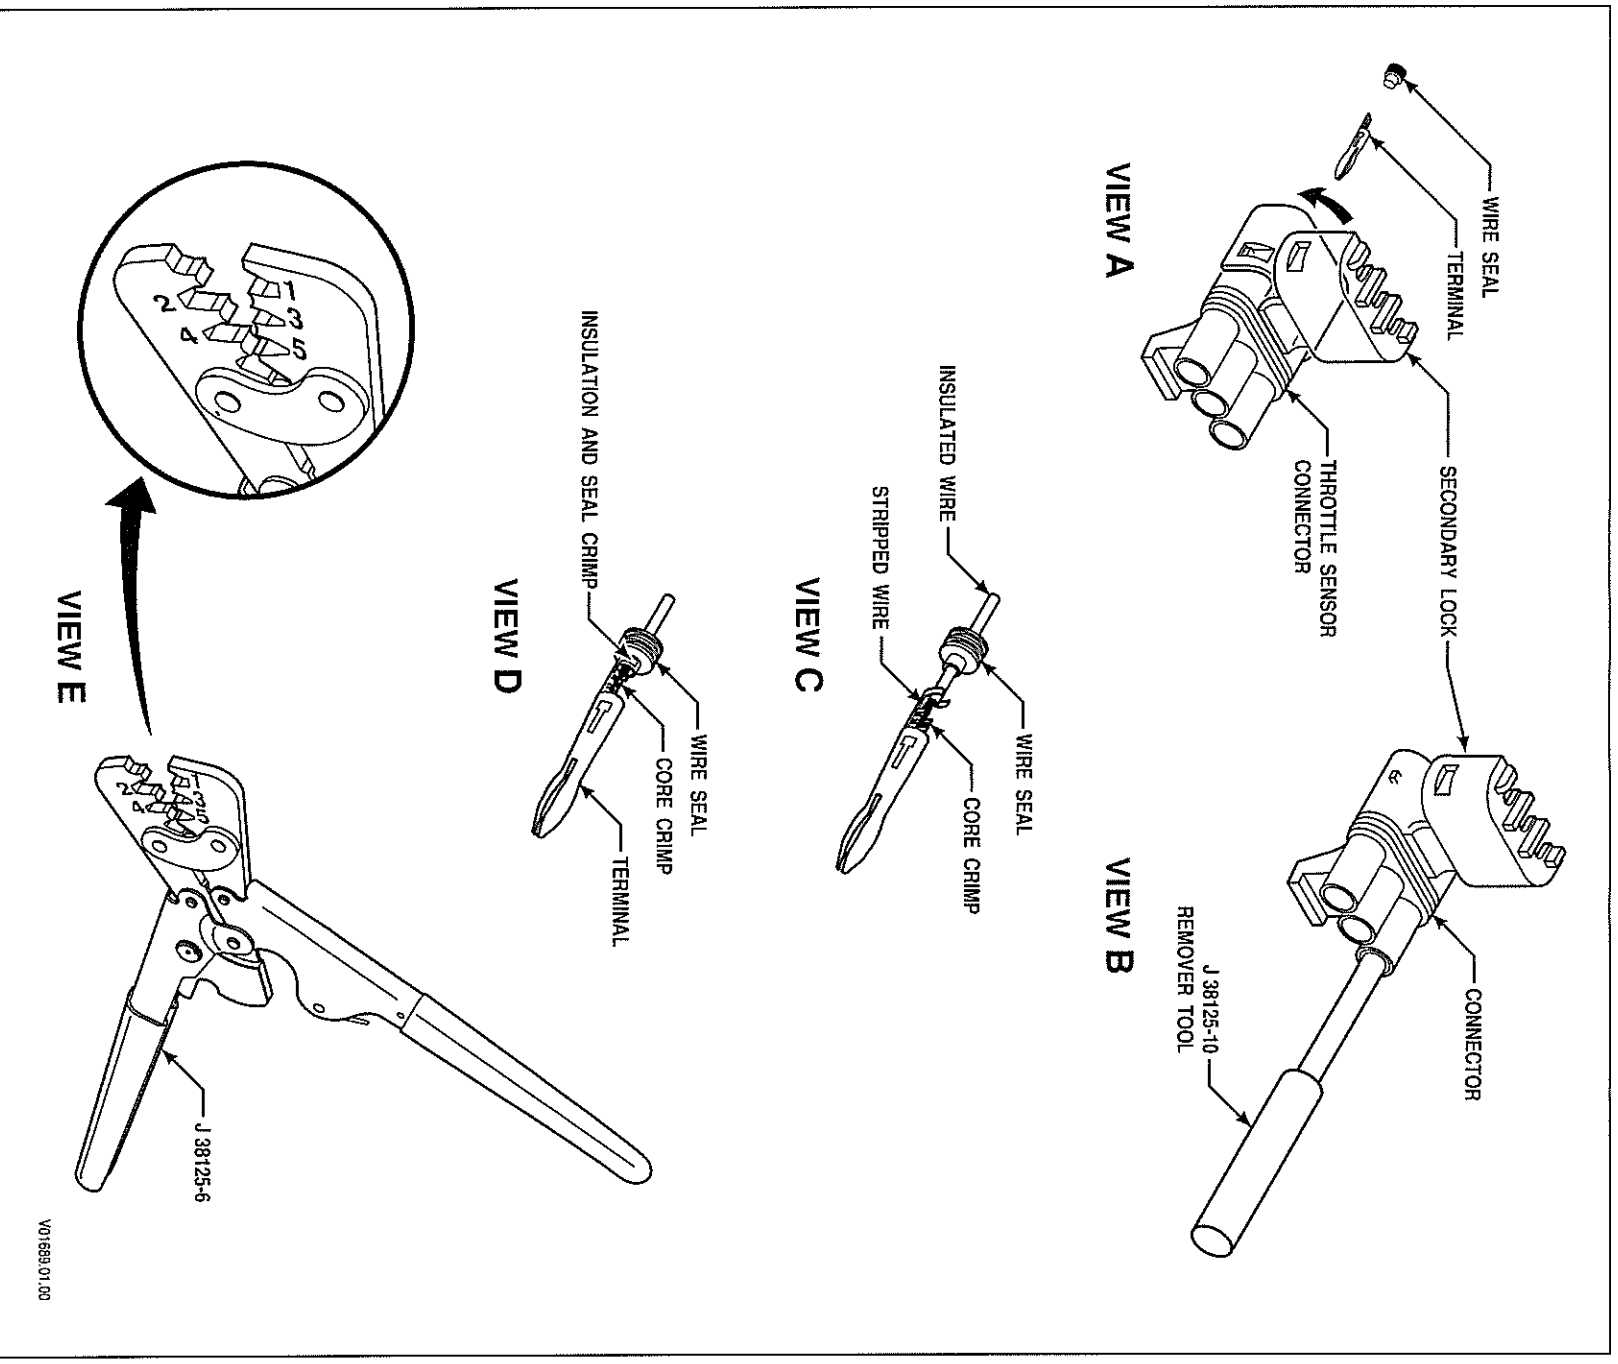

Figure E-10. Delphi-Packard WeatherPack Connectors (TPS; 3-Way RMR Sensor; Type 3; 3-Way RMR Device (Dedicated Pedal))
1. Unlatch and open the secondary lock on the connector (Figure E-10, View A).
2. On the front of the connector, insert remover tool J 38125-10 over the terminal. Push the tool over the terminal and pull the terminal out of the back end of the connector (Figure E-10, View B).
1. Place the wire seal onto the wire before stripping the wire (Figure E-10, View C).
3. Place terminal onto crimping tool J 38125-6 (Figure E-10, View E), anvil “2.”
5. Insert wire so that the stripped portion of wire is in the core crimp area and the insulated portion of the wire is in the insulation crimping area (Figure E-10, View C).
8. Push the wire seal into the terminal (Figure E-10, View D). The second crimp will wrap around the wire seal. This will seal the insulated area of wire.